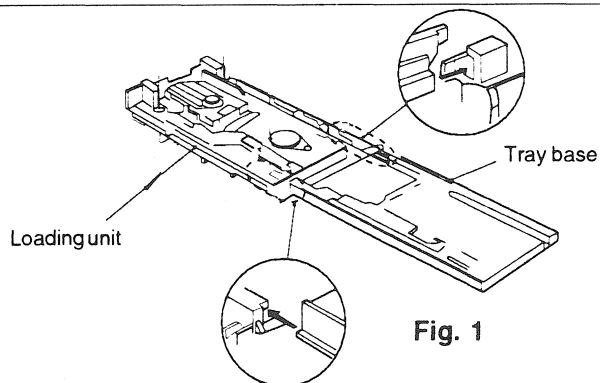

Fig. 1
Step 1 Install the tray base on the loading unit. (See fig. 1)